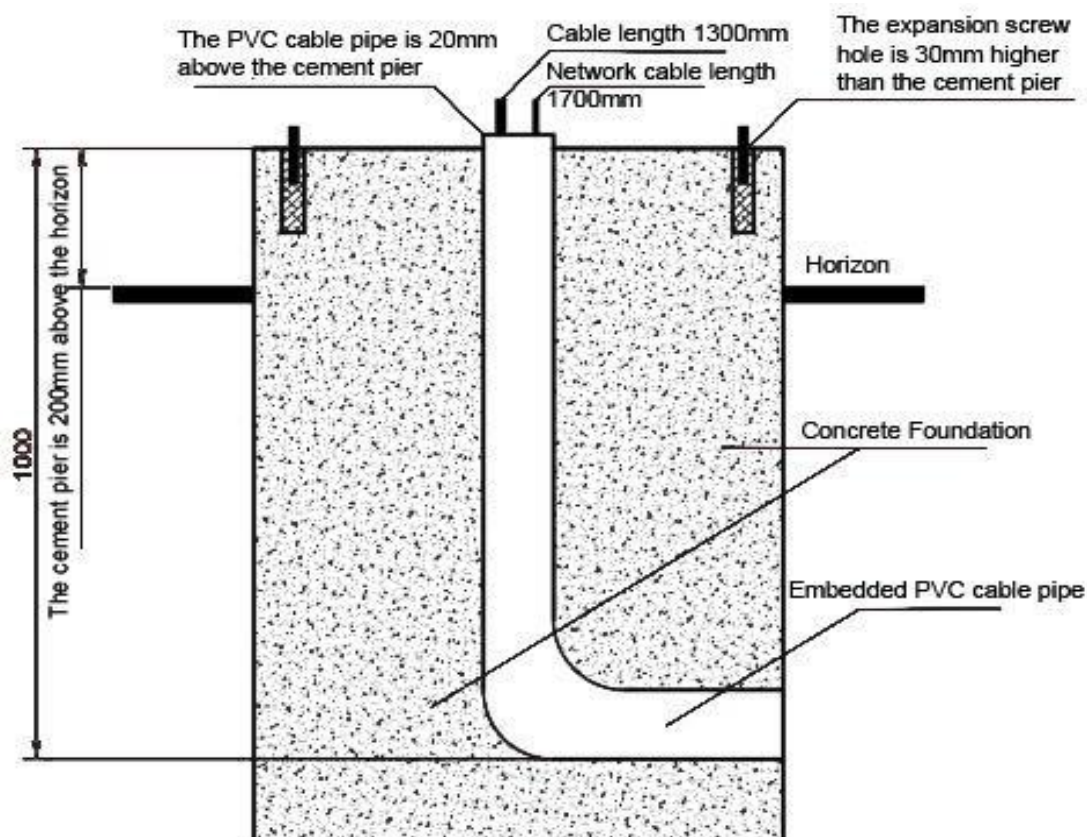

Figure 5-2-1 Vertical Type Installation Method
1. This series of DC charging station can be installed vertically according to the requirements Installation size, as the Figure 5-2-1 and Figure 5-2-2: